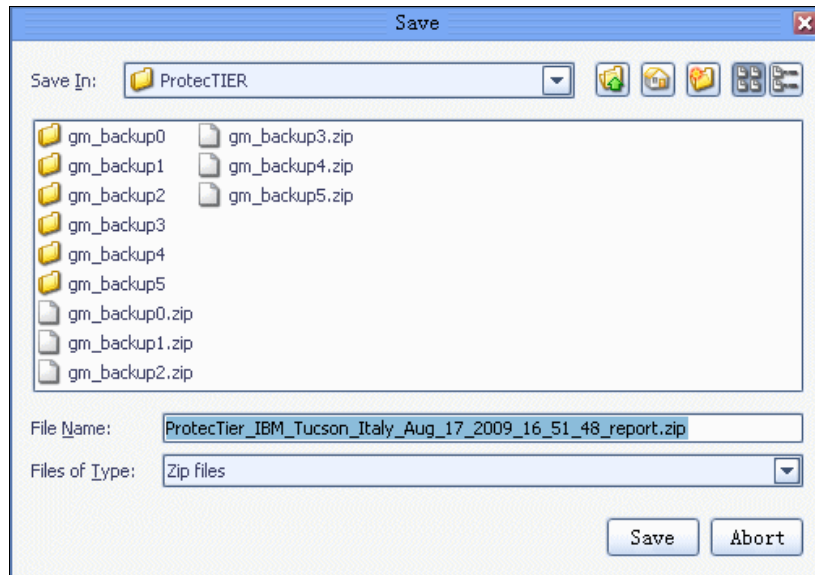

Figure 10-67 Save report.zip file window
5. Click **No**. A standard save window opens, enabling you to save the report.zip file (Figure 10-67).